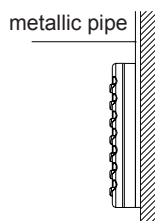

Figure 1:
- 3 If the control wire between the wire controller and the indoor unit is surface-mounted, use 1# metallic pipe and make matching recess in the wall (Refer to Figure 1); If concealed installation is adopted, 1# metallic pipe can be used (Refer to Figure 2).